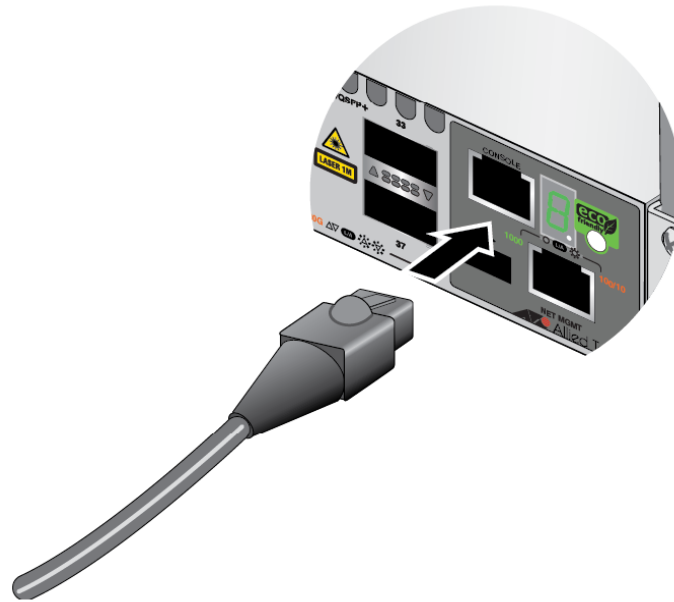

Figure 125. Connecting the Management Cable to the Console RS-232 Port
1. Connect the RJ-45 end of the management card included with the switch to the Console RS-232 port on the management panel. Refer to Figure 125.